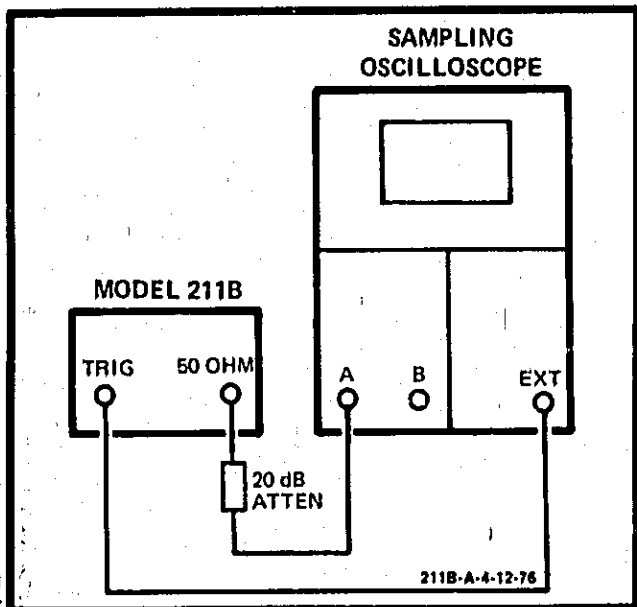

Figure 5-5. 50-ohm Output Test Setup
a. Connect equipment as shown in figure 5-5.